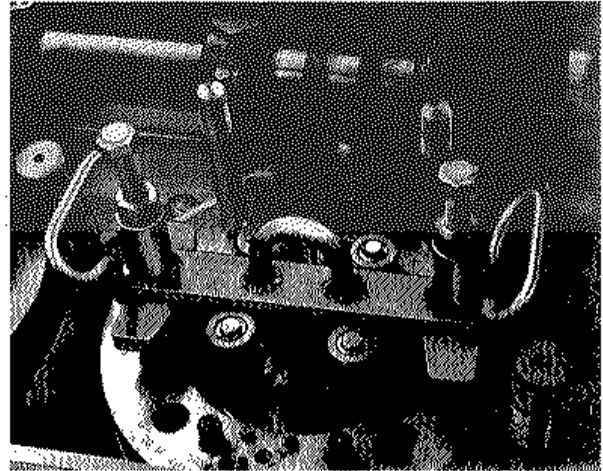

Fig. 5-6 - Cylinder Head Removing Fixture
25. Be sure that the head puller holes, located at the 3 o'clock and 9 o'clock positions on the head, are free of dirt and oil and install the cylinder head removing fixture, Fig. 5-6. Make sure that the bolts are bottomed to support the weight of the head.